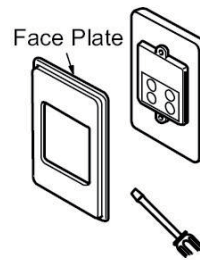

Fig. 3
4. Remove the face plate from the controller using a flat screwdriver (Fig.3).